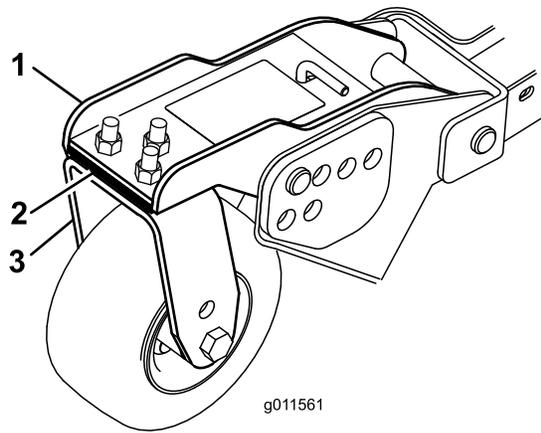

Figure 103
1. Remove the cap screws and nuts securing the castor arm to the castor fork (Figure 103).